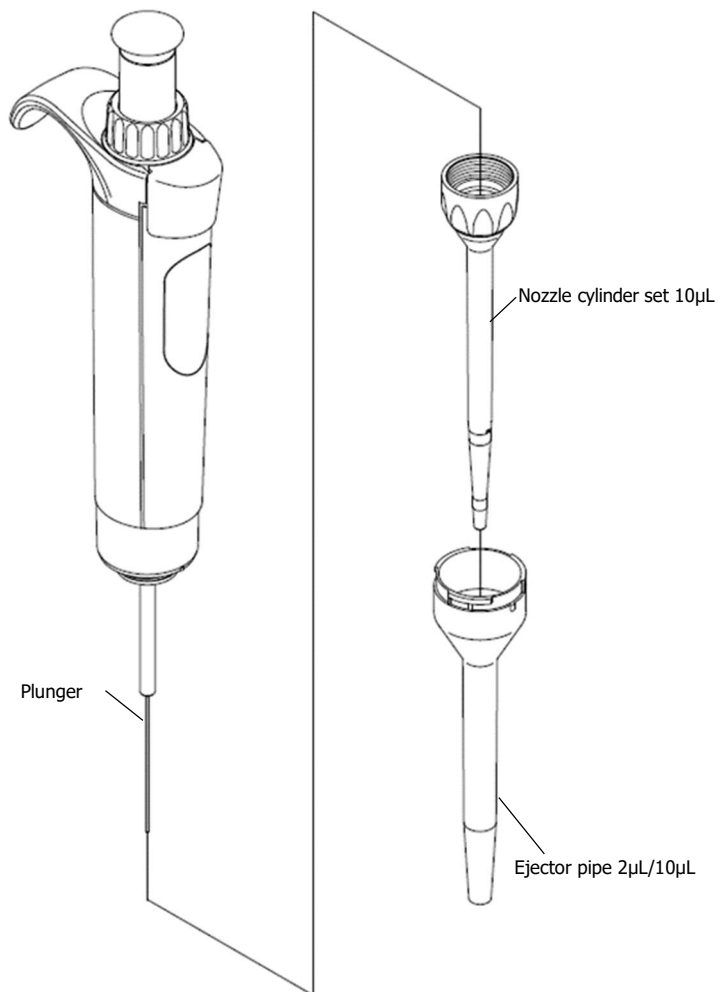

Fig. 4-9
- 20 μL , 100 μL , 200 μL , 1000 μL (Fig. 4-9 to 4-12)